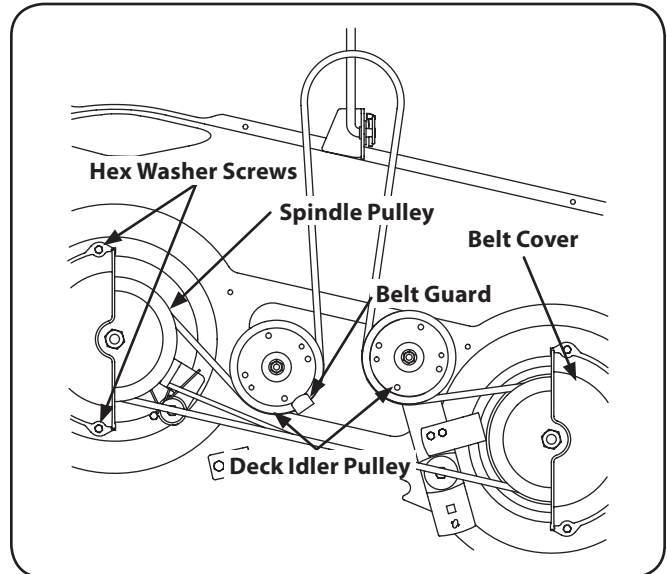

Figure 7-8
2. Remove the belt covers by removing the hex screws that fasten them to the deck. See Fig. 7-8.
4. Carefully remove the deck belt from around the two spindle pulleys and the two deck idler pulleys. See Fig. 7-8.
5. To place the new belt, begin by routing the belt around the two outer spindle pulleys as shown in Fig. 7-8.
6. Then route the belt around the two deck idler pulleys as shown in Fig. 7-8.